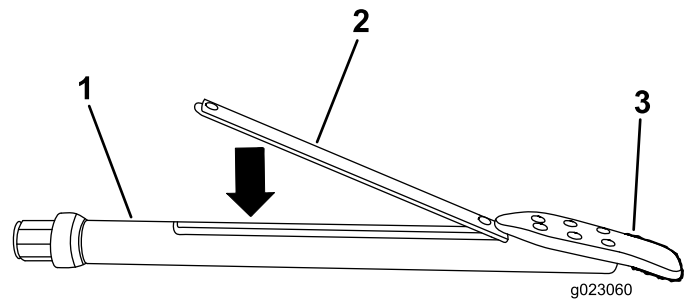

Figure 76
3. Insert the sonde beacon with the forward end toward the drill bit into the sonde housing (Figure 76).